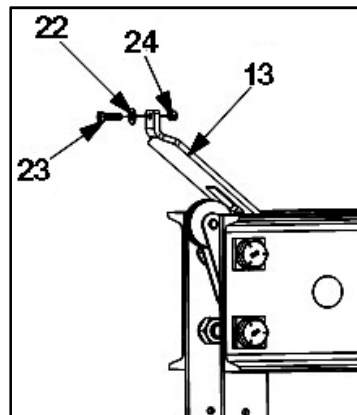

Fig. 10: Install cable mount hardware
12. Loosely install the Cable Anchor Hardware [items #22, #23, and #24] on the Cable Anchor Bracket [item #13] as shown in Fig. 10. Do not tighten, as this will be used to attach the 1/8" cable and tightened in a later step.